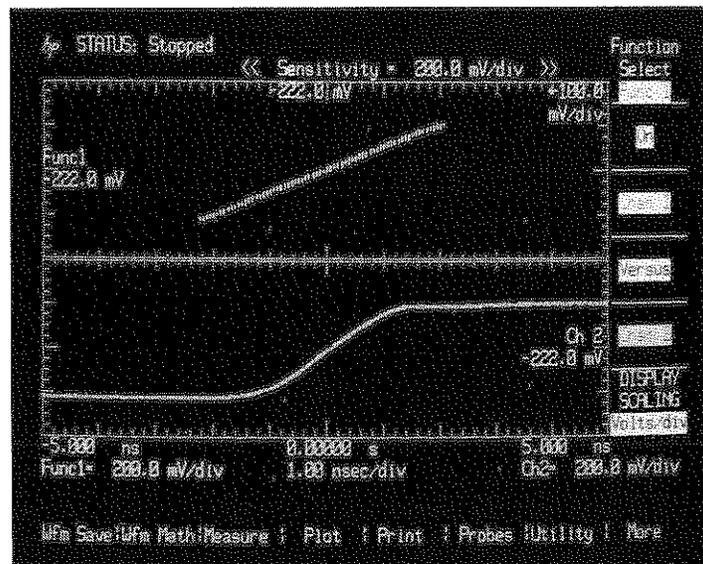

Figure 7-32. Chan 1 Versus Chan 2 with Precise Timing Resolution.
5. Press the More key and select the Wfm Math menu. Turn Func 1 On and select Chan 1 Versus Chan 2. (See Figure 7-32).